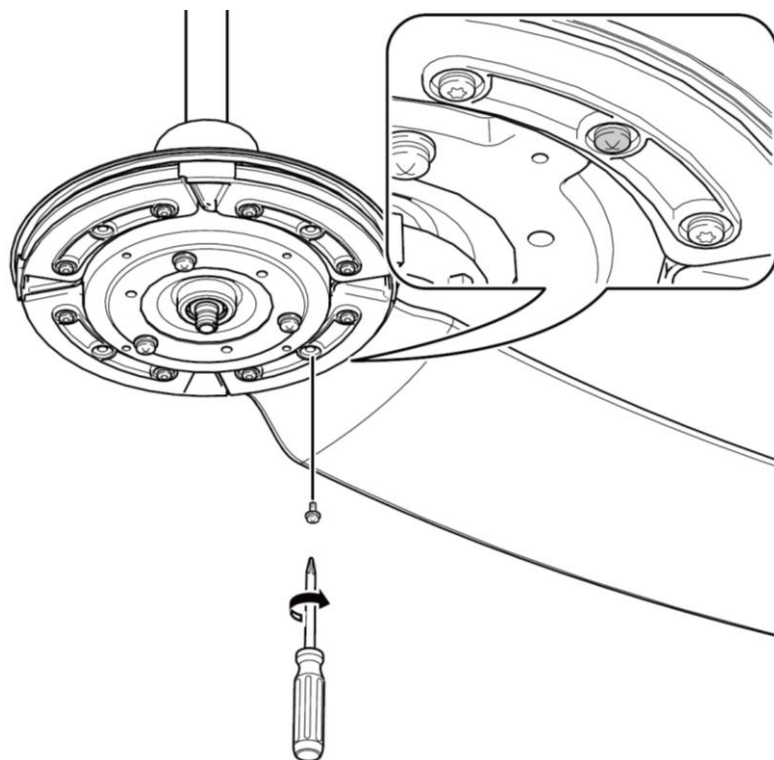

Fig. 5.3
3. Secure the fan blade by tightening the centre fan blade screw. (Fig. 5.3)